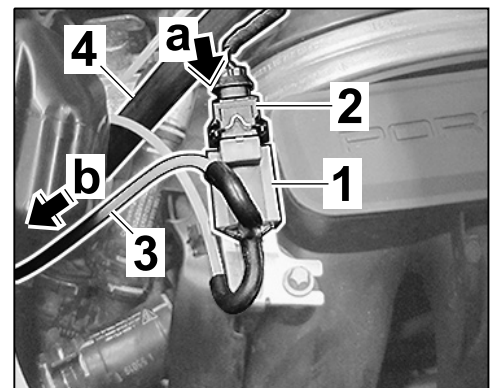

Figure 37
6.3 Slide change-over valve ⇒ *Figure 37-1-* onto the change-over valve holder. Route the longer vacuum line ⇒ *Figure 37-3-* along the shift cable ⇒ *Figure 37-4-* and down to the transmission ⇒ *Figure 37-arrow b-*.
Connect plug connection ⇒ *Figure 37-arrow a-*.